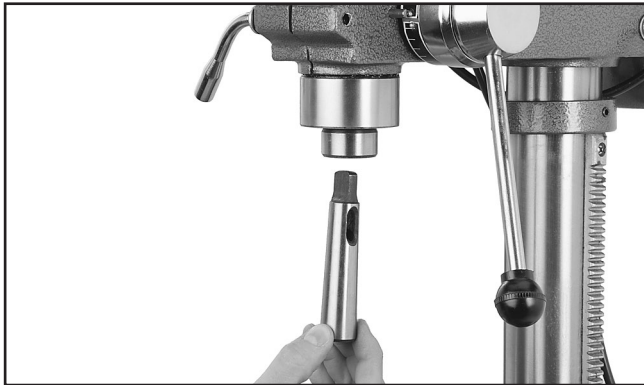

Figure 19. Installing a morse taper sleeve.
2. Insert the sleeve into the spindle with the tang side up (**Figure 19**) and rotate with upward pressure until it fits into place.